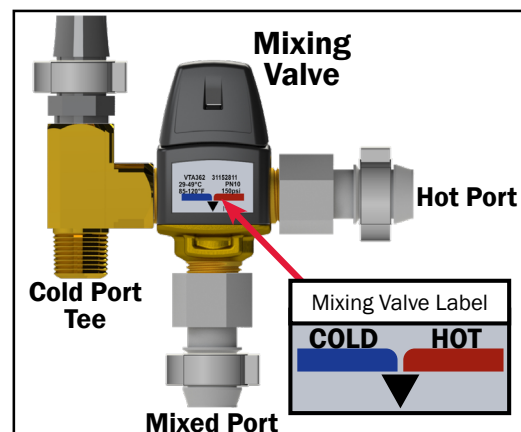

Figure 13
- Connect port 3 of the check valve to the hot port of the mixing valve. The hot port is denoted by a red line on the label of the mixing valve (Figure 13).
- Connect port 4 of the check valve to the tee fitting on the cold port of the mixing valve. The cold port is denoted by a blue line on the label of the mixing valve (Figure 13).